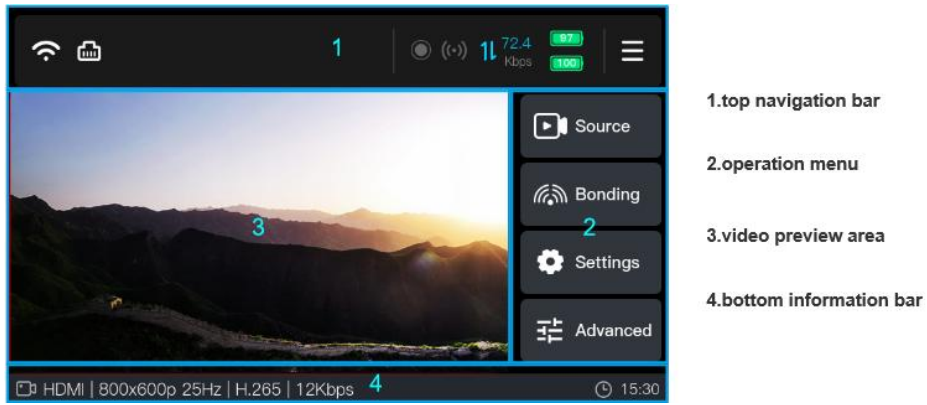

Figure 5: LCD Screen Main Interface
After the startup guide is completed, P3's LCD display will show the main interface. This interface is divided into the top navigation bar (1), operation menu (2), video preview area (3), and bottom information bar (4) (refer to Figure 5).